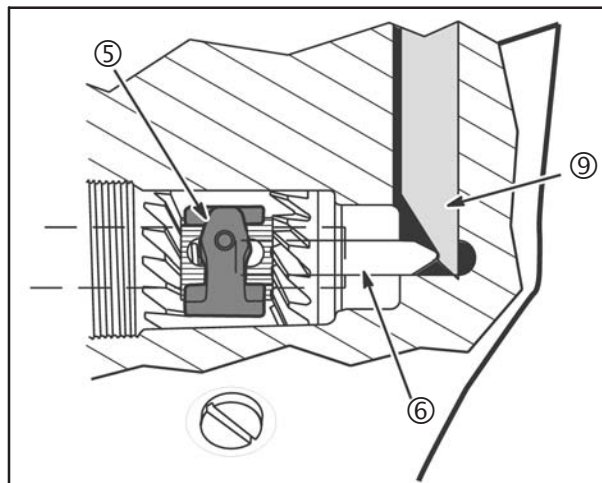

Fig. 7 – Neutral
When the shifter is in the NEUTRAL position the shift cam (Figure 7) ⑨ is in the middle position. The cam-follower ⑥ is on the middle detent of the shifter cam. The sliding clutch ⑤ is not engaged to either the FORWARD or the REVERSE gears.